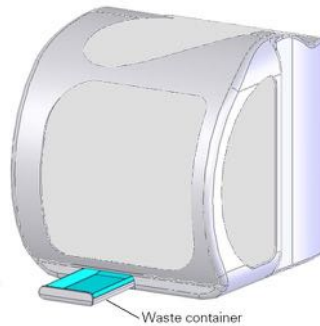

Figure 11-2: Waste Container for the Octet Instrument
1. Press on the container to open it (Figure 11-2).